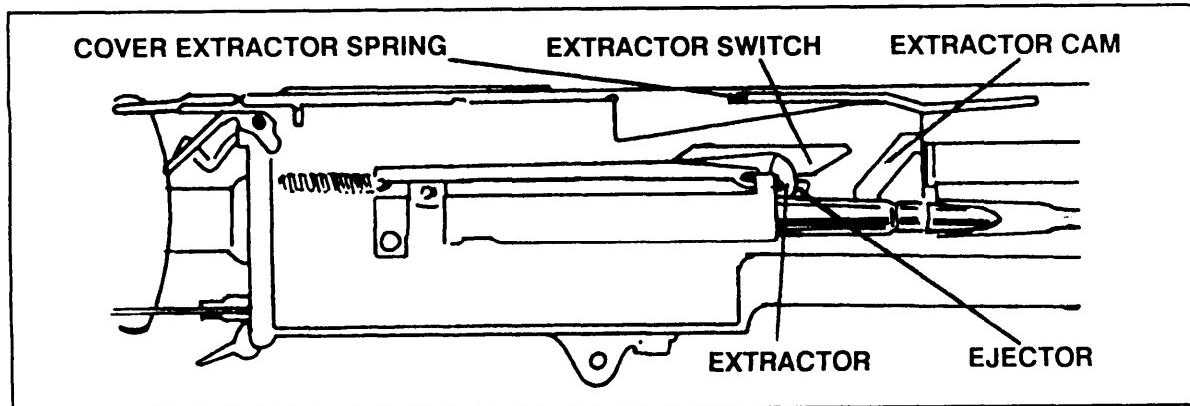

Figure 3-10. Cambering – new round aligned with the chamber.
b. **Cambering.** Cambering is placing the cartridge into the chamber of the weapon. During this cycle, the bolt moves forward, carrying the cartridge in the T-slot in a direct route to the chamber of the weapon. At the same time, the extractor rides up the extractor cam and when the bolt is fully forward, the extractor grasps the next linked cartridge (Figure 3-10).